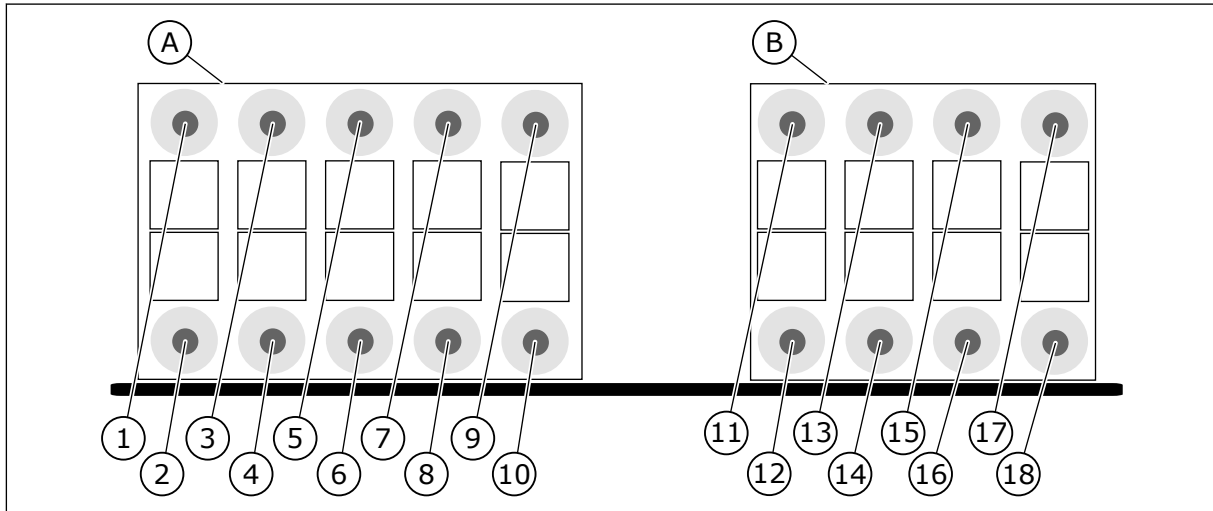

Fig. 2: The terminals of the OPTBL option board
A. Terminals X3 (See Fig. 2.)
B. Terminals X4 (See Fig. 2.)